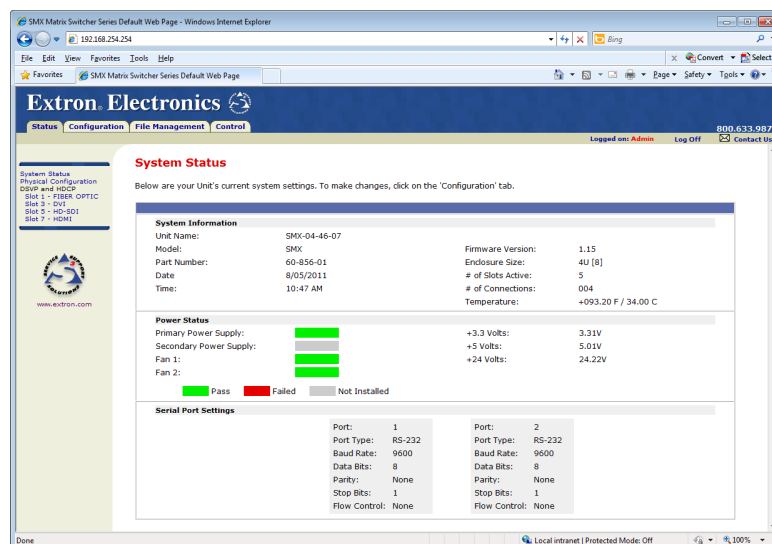

Figure 46. System Status Page Set to the Default Home Page
- If neither of the above conditions is true, the SMX downloads the factory-installed default startup page, “nortxe_index.html” (System Status page, see figure 46).